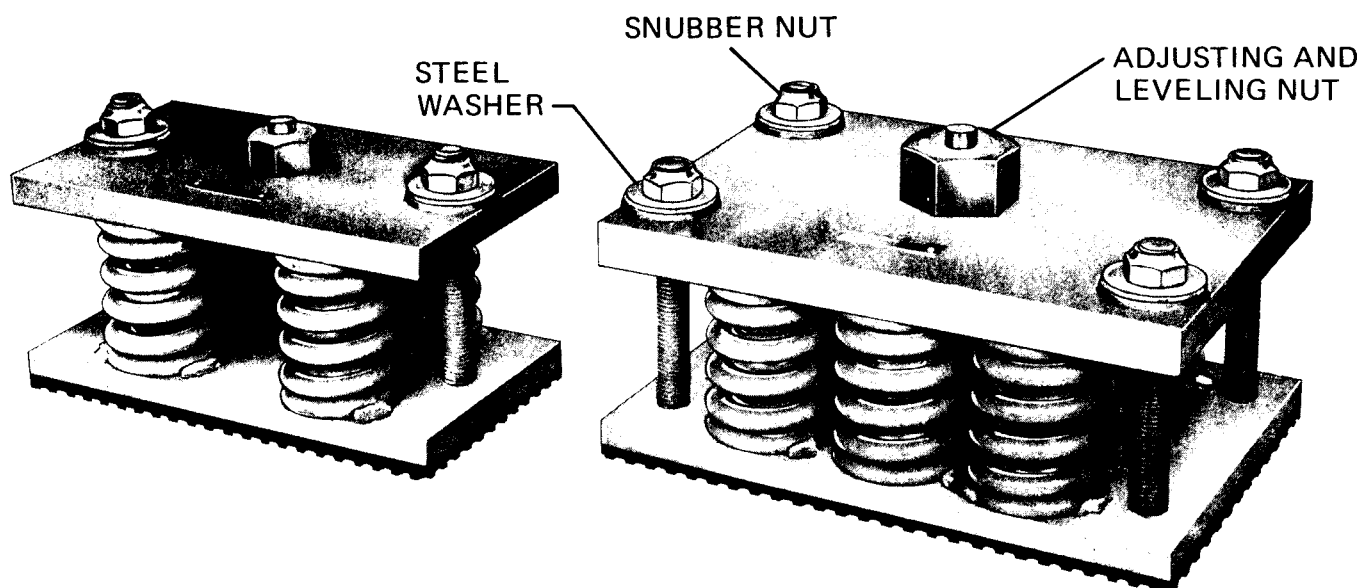

FIG. 3 – SPRING ISOLATORS
2. With a good vacuum pump, and Meriam gauge connected to the unit charging valve as shown by Fig. 3, evacuate the entire unit to at least 29.72" Hg. vacuum at sea level.
ADJUSTMENT OF SPRING ISOLATORS (Refer to Fig. 3)